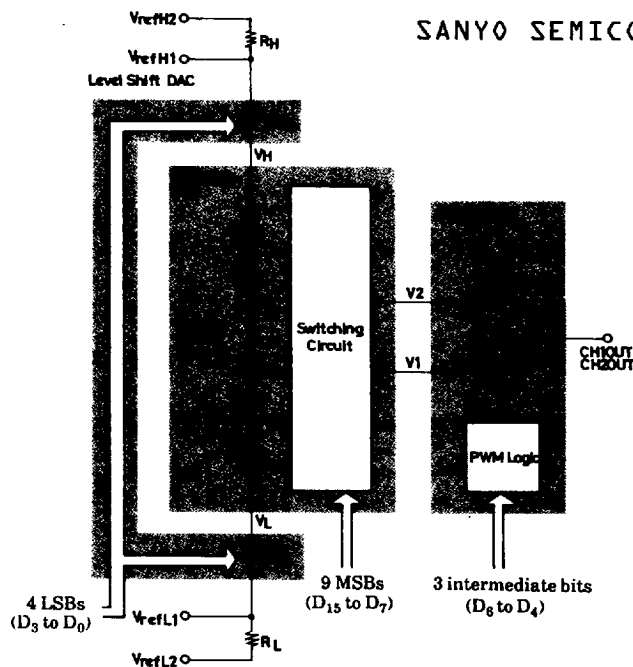

Fig.1 D/A Conversion System of the LC7881
(2) Conversion (See Fig.1.)
(3) Vref Terminal (See Fig.1.)